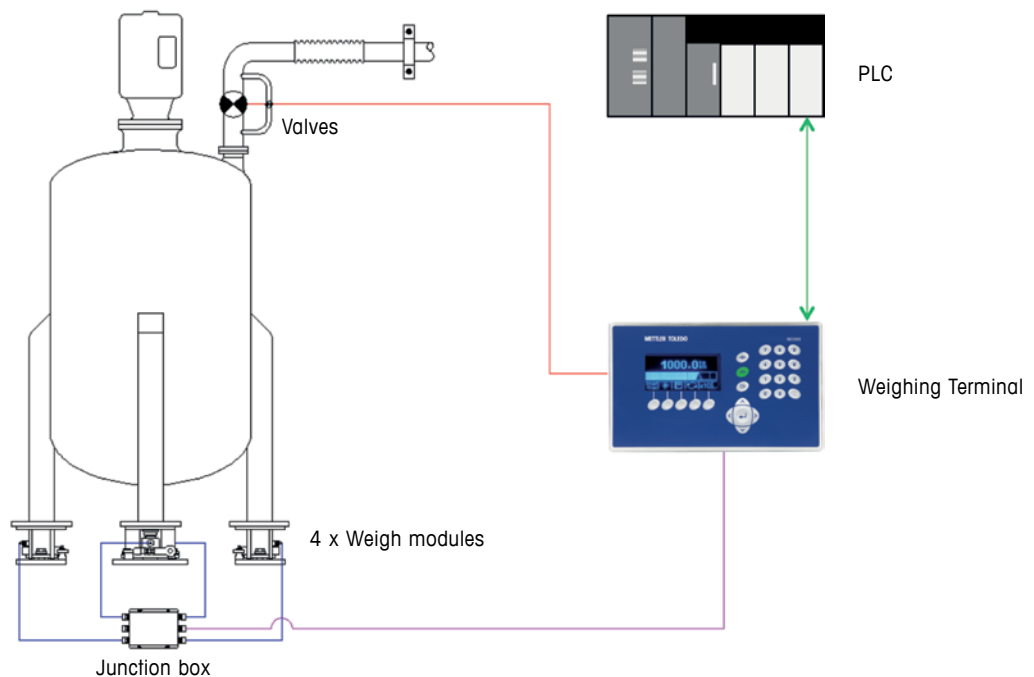

Figure 28: Hybrid Batch Control System with PLC and weighing terminal.
3. A hybrid system is shown Figure 28. Here, the filling control is performed by a terminal such as the IND560, IND690, or IND780, while the PLC/PAC controls the overall process. The PLC/PAC can dictate when to fill and the batching parameters such as target weight and tolerance for each ingredient. However, this information is downloaded to the terminal which has autonomy to execute the batching process. After batching is complete, the terminal can report to the PLC/PAC for record-keeping, inventory control, etc.